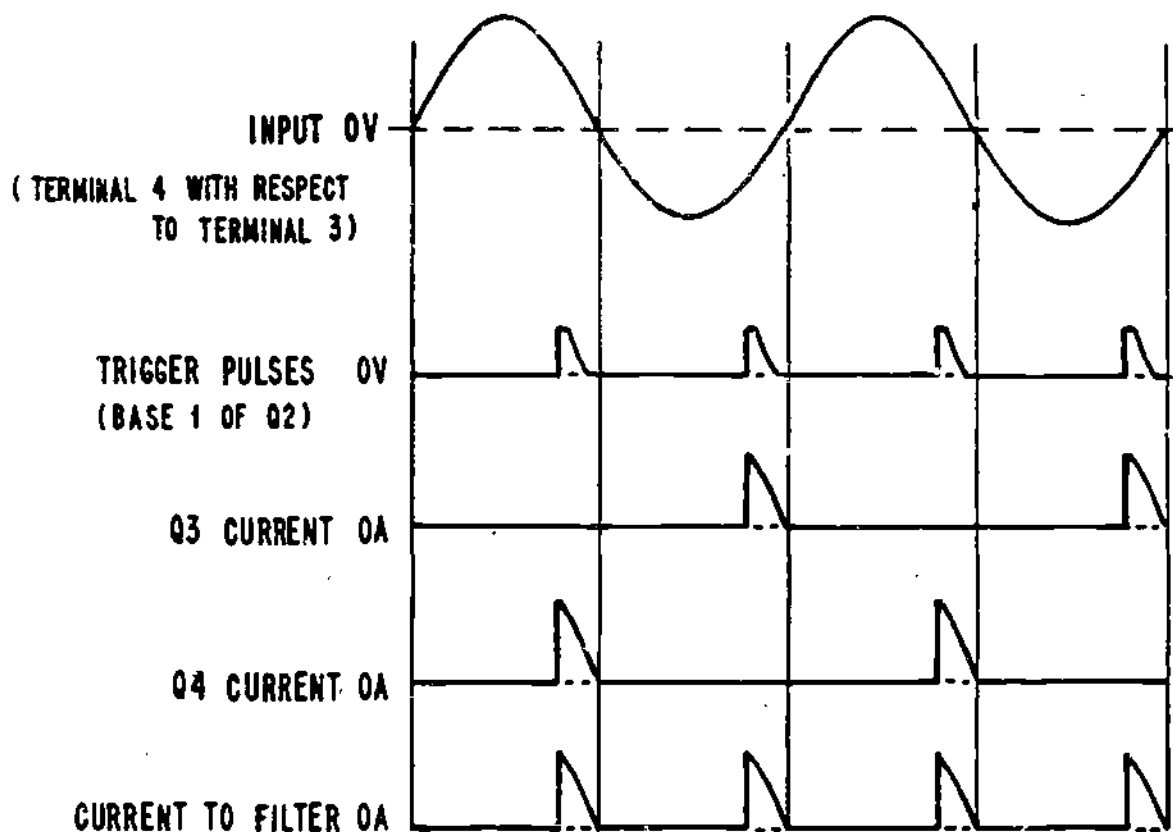

Figure 8
- (20.) The waveforms shown in Figure 8 indicate what happens when the load decreases or the input voltage increases.